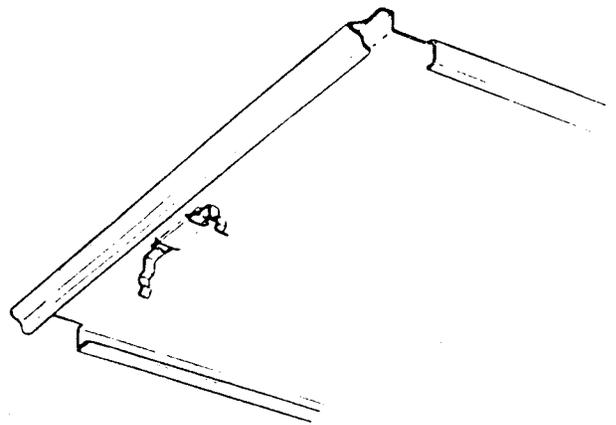

Figure 6 Clip attached to freezer shelf
- Insert one prong of the clip through one of the slots and slide the clip left or right until the other prong can be inserted into the other slot. Then slide the clip back so it is centred on the shelf (see figure 6).